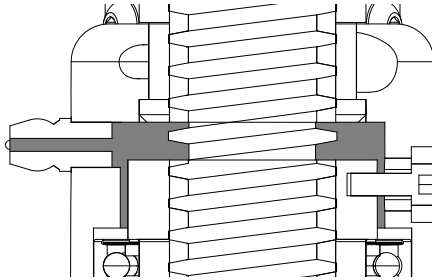

Figure 6-5. Safety Nut Housing Grease Cavity
2. Place grease gun on the grease nipple and fill the safety nut housing cavity with the appropriate grease. (See Figure 6-5.)